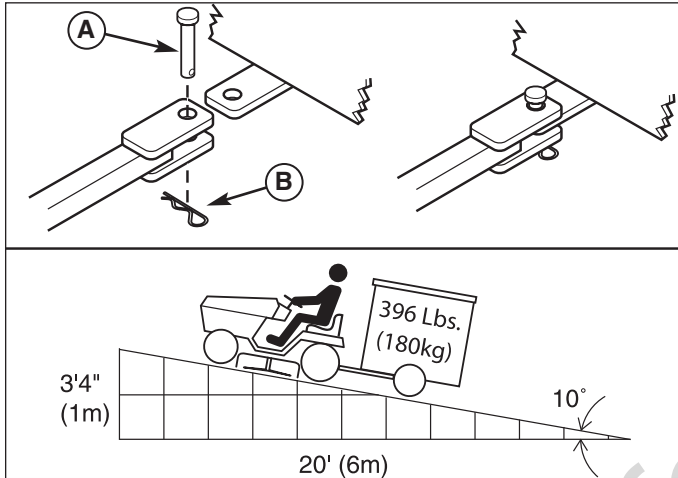

**Figure 5. Raising and Lowering Mower**
**Electric Height of Cut Models:** The cutting height adjustment switch (D, Figure 5) controls the mower cutting height. This same switch also controls the spout rotator motor when a snowthrower is installed. The arrows on the switch correspond to the direction of adjustment (UP arrow raises cutting height, RIGHT arrow rotates the spout right, etc). When the adjustment indicator has reached the end of its travel, release the switch; holding the switch down will damage the motor
**Manual Lift Models:** The cutting height adjustment knob (B, Figure 5) controls the mower cutting height. Turn the knob clockwise to raise the deck and counterclockwise to lower it.